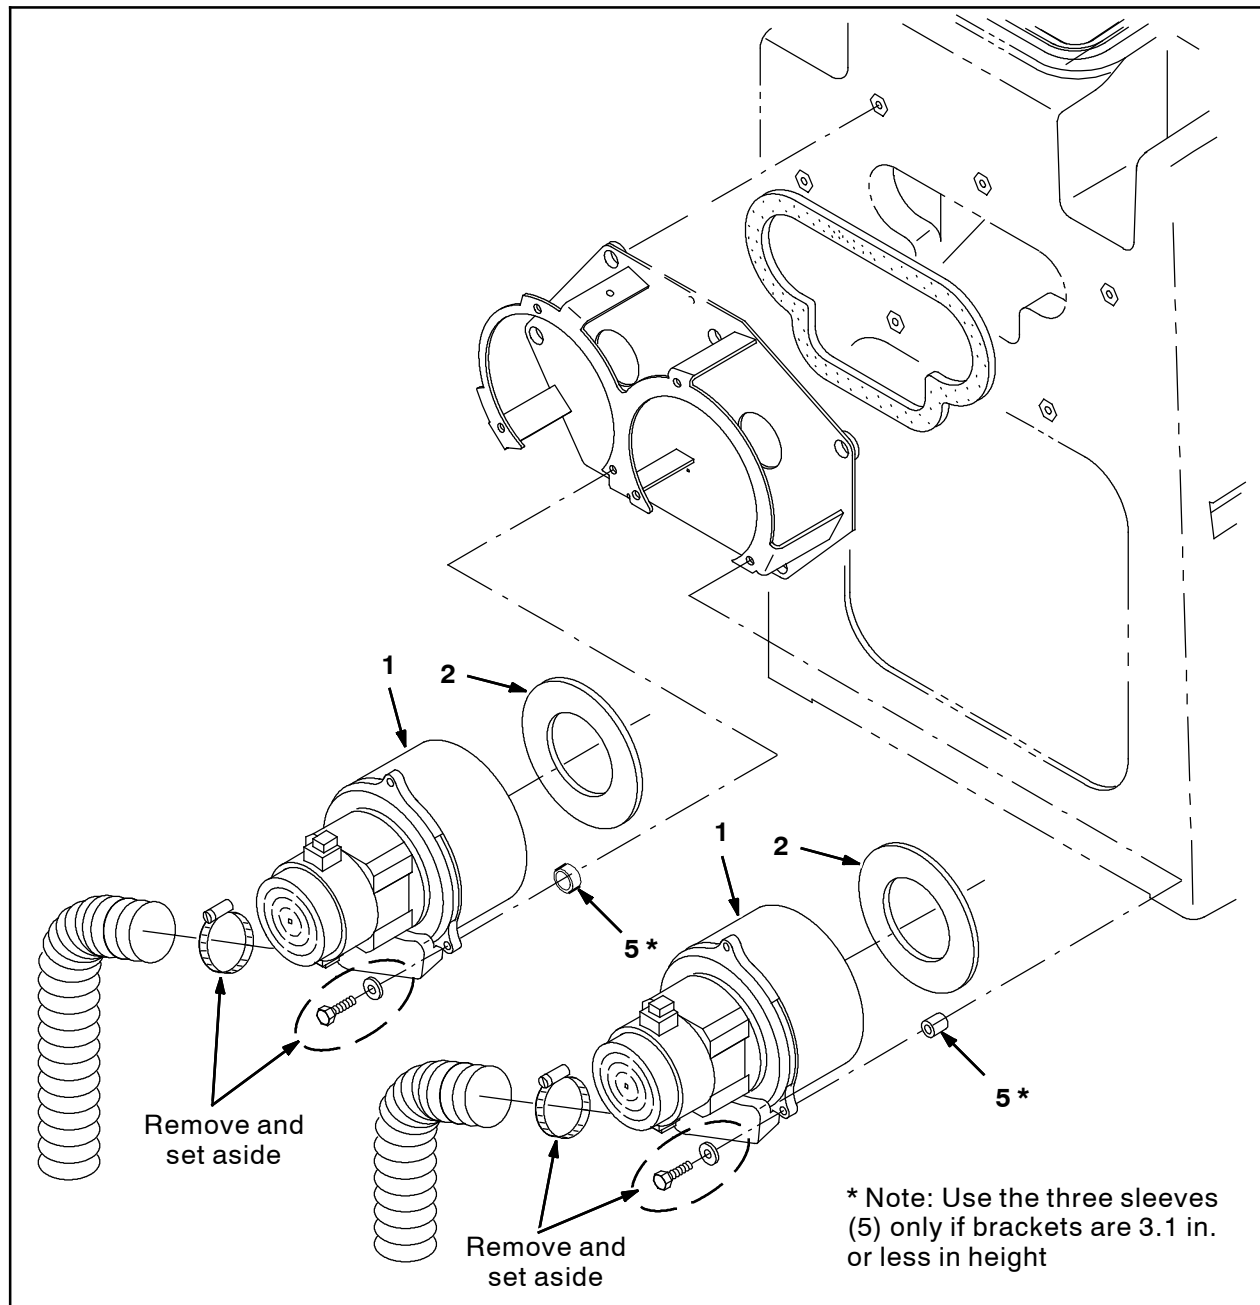

FIG. 7
1. Install the seal (2) onto the vacuum fans (1). (Fig. 7)
2. Use saved hardware to install the new vacuum fans (1) onto the machine. (Fig. 7)
3. Connect the main wire harness and hoses to the vacuum fans (1).
4. Reinstall all parts previously removed to access the vacuum fans. (Fig. 7)